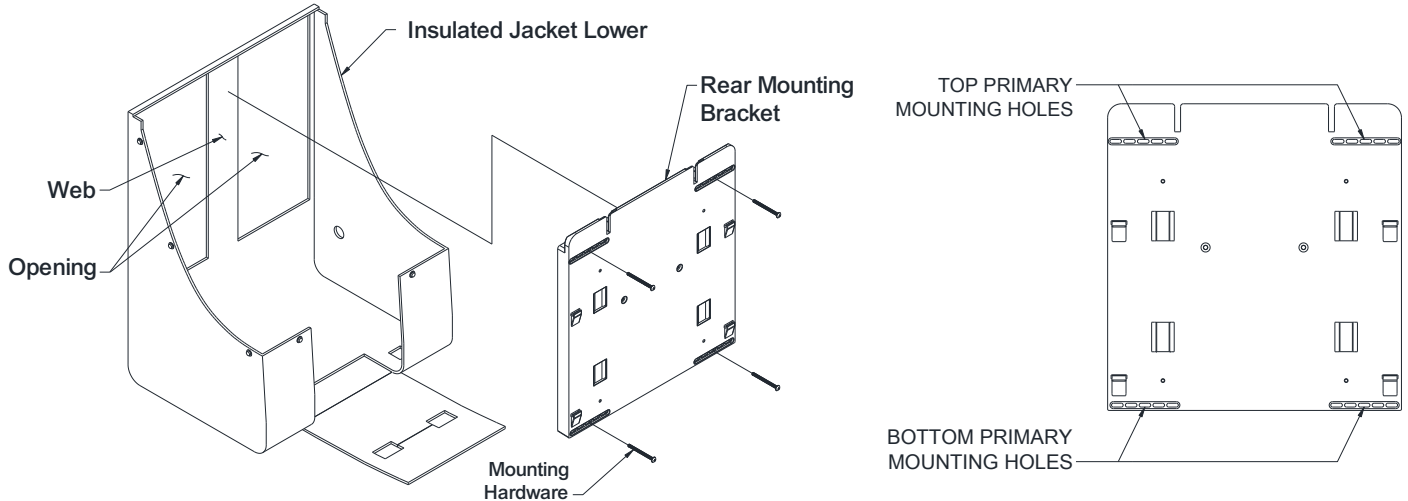

Figure 2
Step 1. Rear Mounting Bracket (Ref Figure 2)